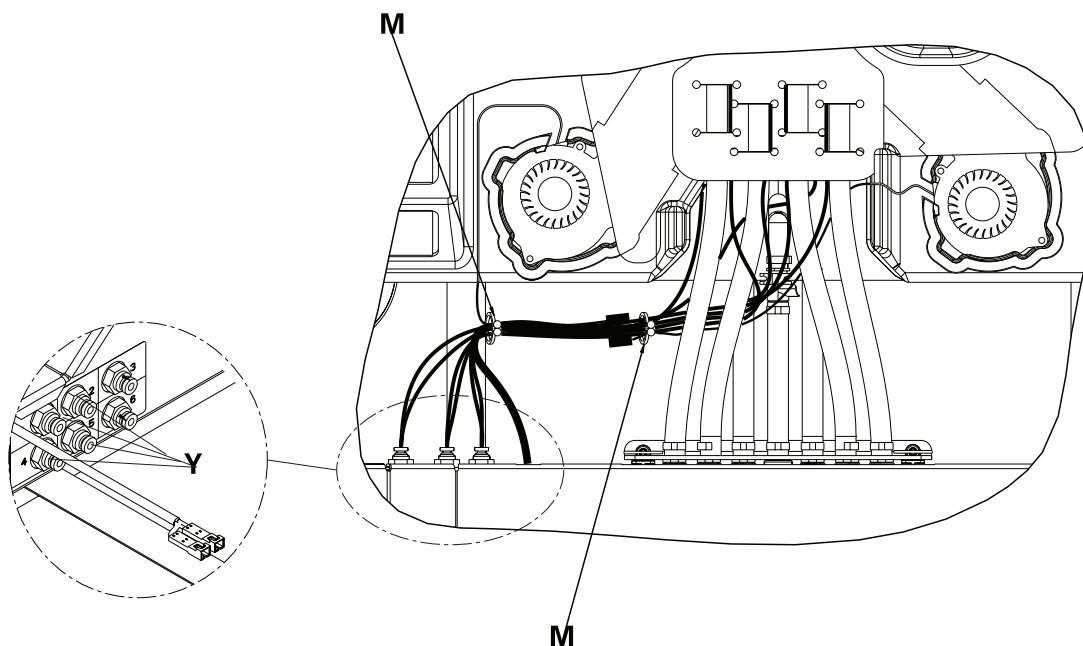

Figure 1-14: Pod sensor hoses and purse lock wire tie
8. Disconnect the four pod sensor hoses (Y) (1 blue, 2 yellow, 4 green, and 5 orange) from the foot box. Push inward on the coupling and pull outward on each of the hoses (Figure 1-14 on page 1-38).
9. Remove sensor hoses from the purse lock wire ties (M) (Figure 1-14 on page 1-38).